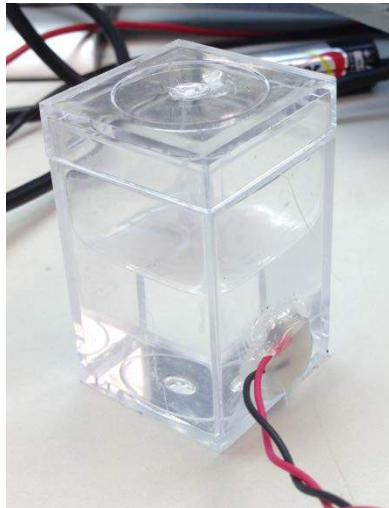

Figure 2. Water Container with 1-MHz Transducer
- (a) For water application, we recommend STEMiNC's 1-Mhz transducer (p/n SMD10T2R111). The sensor should be mounted in a water container. An acrylic container that we recommend can be purchased from Tap Plastics. The example in this user guide uses a 30 mm × 30 mm × 50 mm acrylic container with the STEMiNC's transducer mounted on the side (see Figure 2).